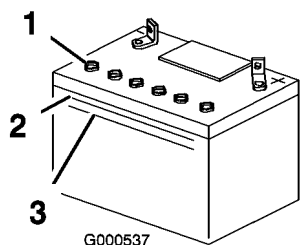

Figure 32
2. Look at the side of the battery. The electrolyte must be up to the Upper line (Figure 32). Do not allow the electrolyte to fall below the Lower line (Figure 32).
3. Remove the vent caps from the battery (Figure 32).
4. Slowly pour distilled water into each battery cell until the electrolyte level is up to the Upper line (Figure 32) on the battery case.
5. Wait five to ten minutes after filling the battery cells. Add distilled water, if necessary, until the electrolyte level is up to the Upper line (Figure 32) on the battery case.